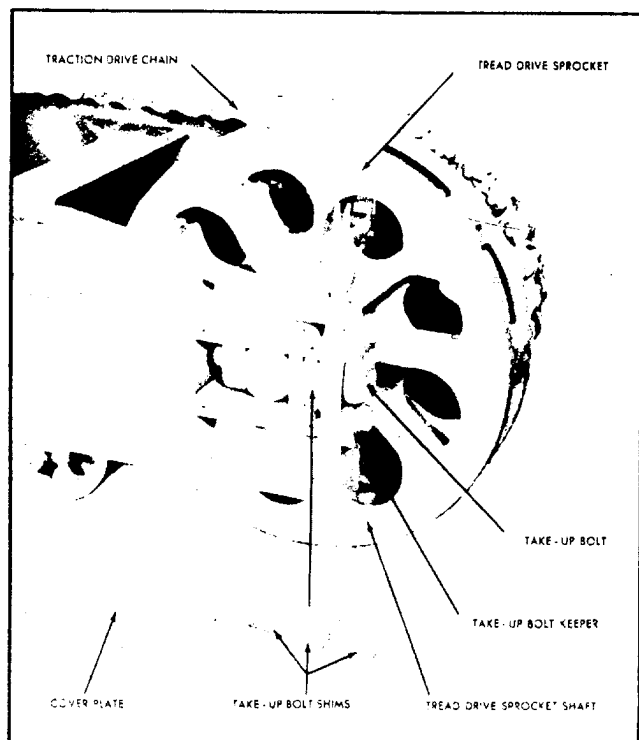

Fig. 3 - TREAD DRIVE SPROCKET
- (1) Split Tread Shoe Belt.
- (2) Remove Take-Up Bolt Keepers and Take-Up Bolts.
- (3) Remove Shims from bottom of take-up roller shaft which will allow the shaft to lower.
- (4) Bump out Take-Up Roller Shaft in either direction.
- (5) Move Take-Up Roller forward, out of side frame.
- (6) For instructions on removal and replacement of Take-Up Roller Bushing refer to "Section 13—Bronze Bushings."
- (7) Reassembly of this unit is in above reverse order.
**TREAD DRIVE SPROCKET — Fig. 3**